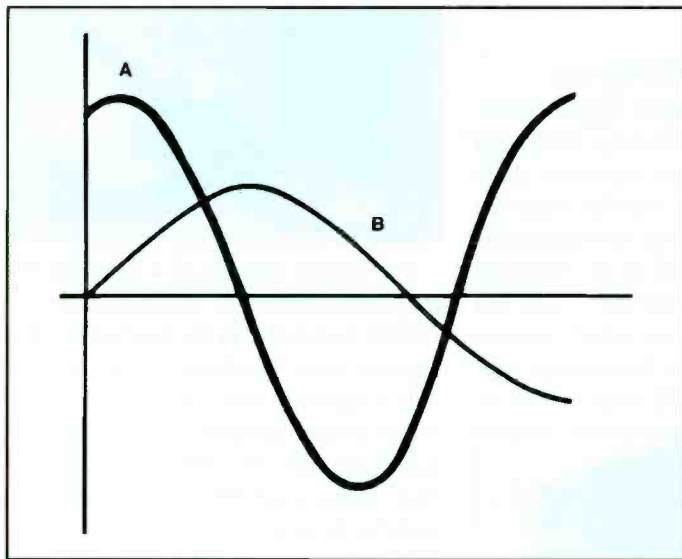

Figure 1
**Figure 1.** Understanding the theory of operation of the television vertical deflection circuit can help in troubleshooting when the necessary service literature is not available.
Think of the vertical deflection circuit as a one note audio amplifier operating near 60Hz, and brought up to exact frequency by a synchronizing signal (Figure 1). The yoke reflects back a load impedance similar to that of a speaker voice coil. Both circuit applications depend on feedback to cancel distortion and to maintain linearity. The value of the coupling capacitor is selected for the maximum power transfer. The principal difference between the audio amplifier and the vertical deflection circuit is that the input for the one is the frequency range for audio and the input of the other is the retrace pulse for TV.
3. Refer to Figure 1. Which of the fol-